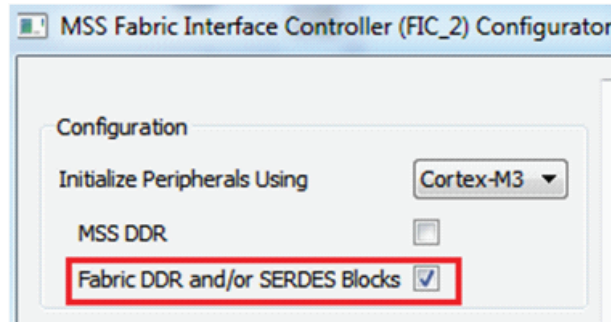

Figure 2-18 • FIC_2 Configuration
3. Configure FIC_2 to enable the FIC_2 APB interface for configuring the FDDR subsystem registers from the Cortex-M3 processor, as shown in Figure 2-18.